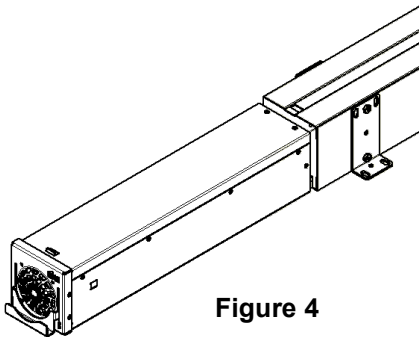

Figure 4
4. Slide FMPU-2000 into the FMPS-SM cavity (Fig. 4).